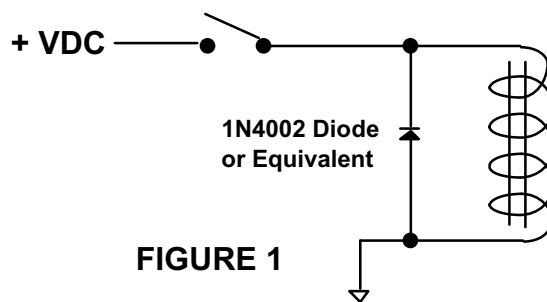

FIGURE 1
2. When using inductive devices such as relays, motors, or solenoids, care must be taken to avoid voltage transients which result when these devices are switched on and off. These transients can often be strong enough to interfere with [and even damage] system electronics. If the inductive devices are DC, a suppression diode should be placed across the coil as shown in Figure 1.